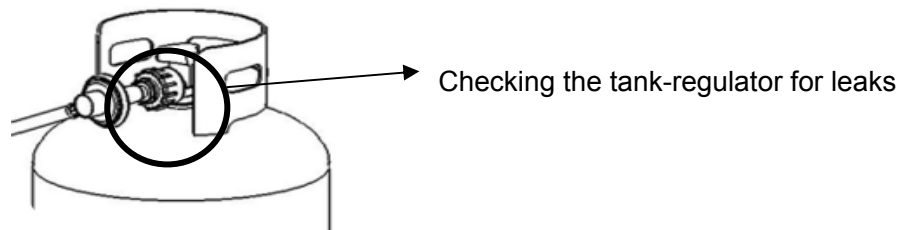

Figure 12
12. Open the tank valve. Apply a solution of soapy water to the tank-regulator connection and to the valve-hose connection to check for leaks as shown in Figure 12. If soap bubbles continue to form, the connection has a leak. If a leak is found, close the tank valve and tighten all connections.